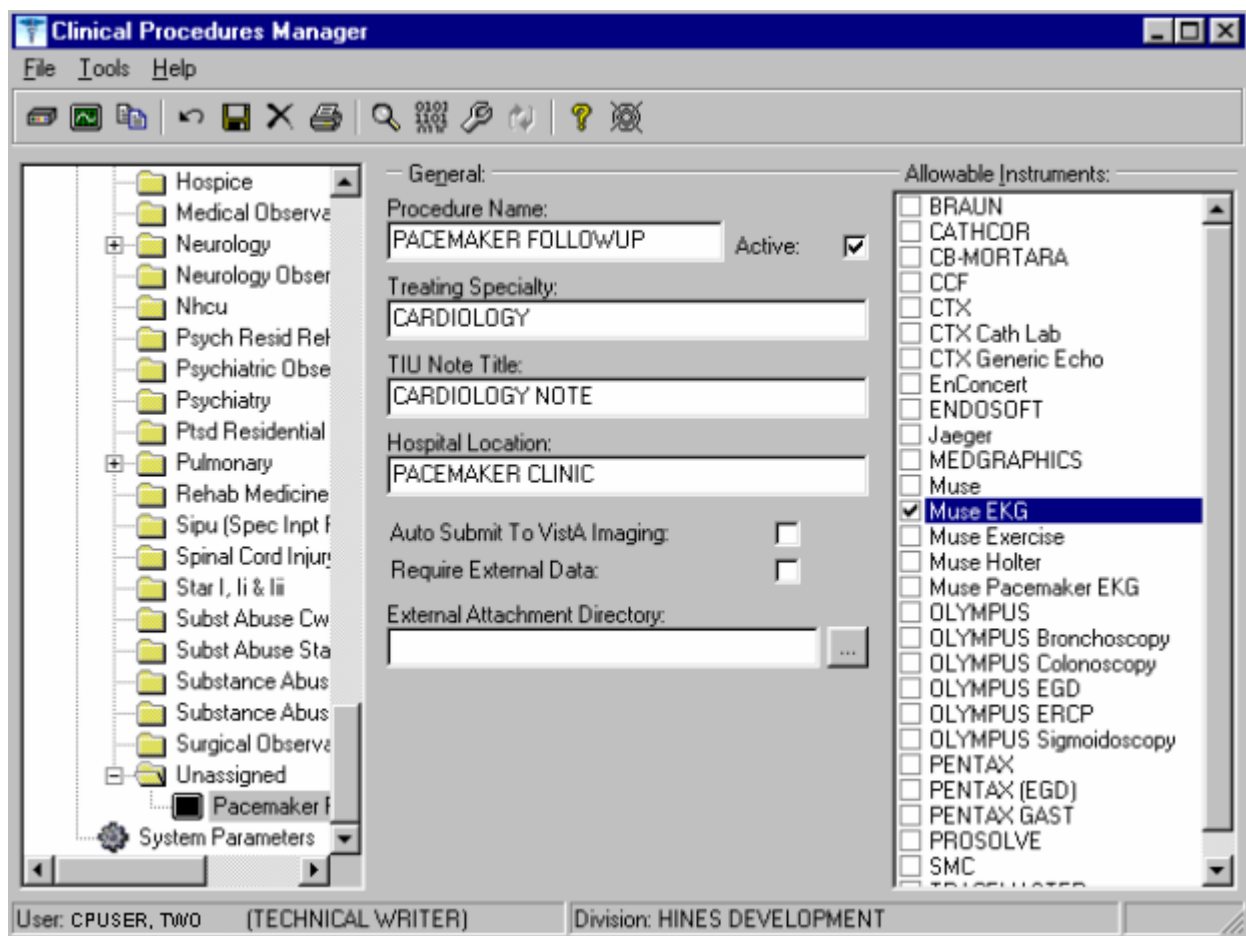

Fig. 6-9
3. Click **OK**. The Edit screen is displayed. Fig. 6-9 is the edit screen for procedures. The Procedure Name that you just entered is displayed in the left side of the CP Manager window in the Unassigned folder.